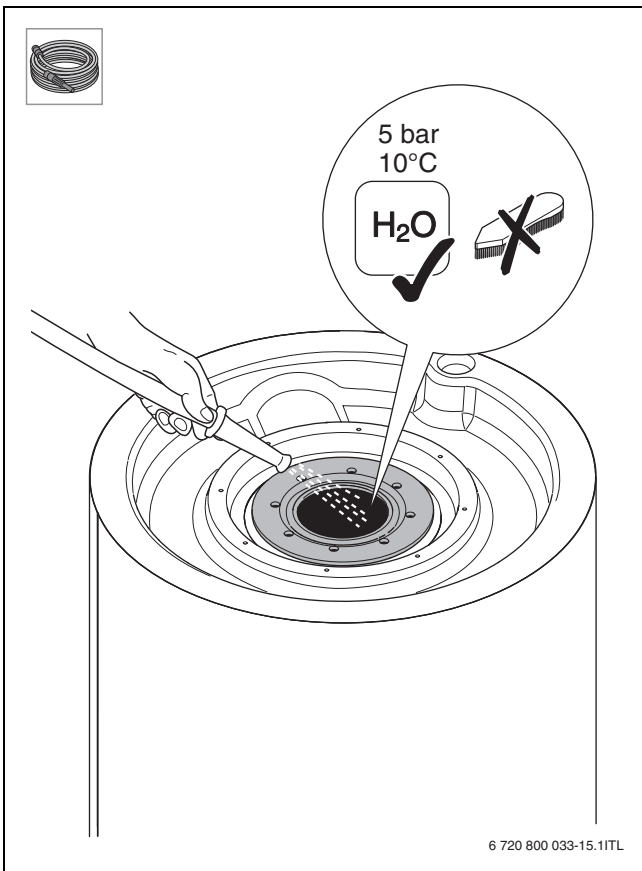

Fig. 21
- ▶ Rincer le ballon ECS (→ fig. 21, page 64).